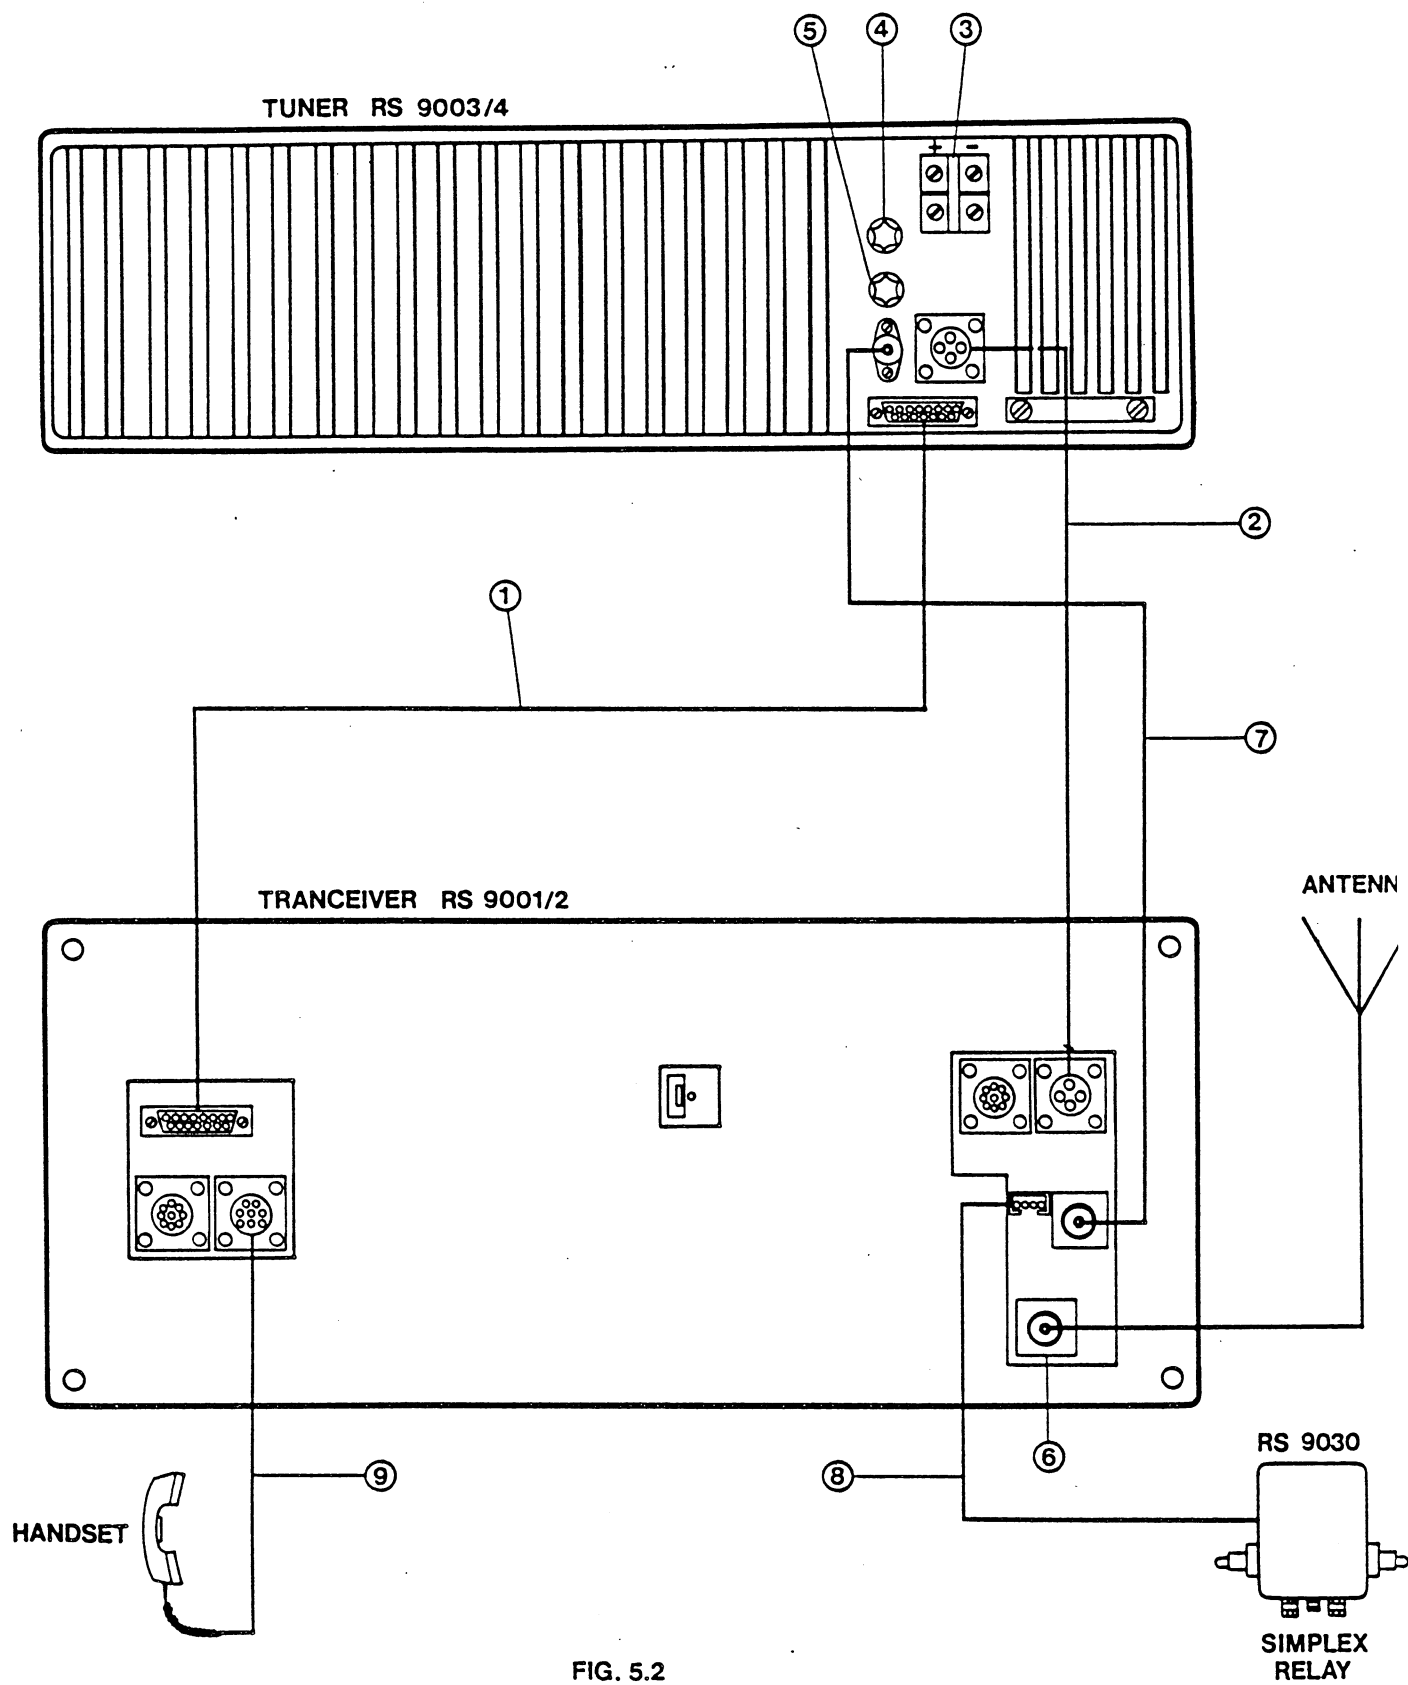

FIG. 5.2
- 1) Check that the control and power supply cables are correctly fitted between RS 9001/2 transceiver and RS 9003/4 tuner. Cf. fig. 5.2 (1) and (2) .
- 2) Check, by means of a voltmeter, correct supply voltage (12/24 V) and polarity on the battery connection of the tuner, cf. fig. 5.2 (3) .
- 3) Check fuses at the back of the tuner and exchange if necessary, cf. fig. 5.2 (4) and (5) .
- 2) Check that the antenna plug is connected to the receiver, cf. fig. 5.2 (6) .
a) The coaxial cable between transceiver and tuner is not fitted or defective, cf. fig. 5.2 (7) .
c) When using RS 9030 simplex relay, check that the relay control cable is correctly fitted, cf. fig. 5.2 (8) .